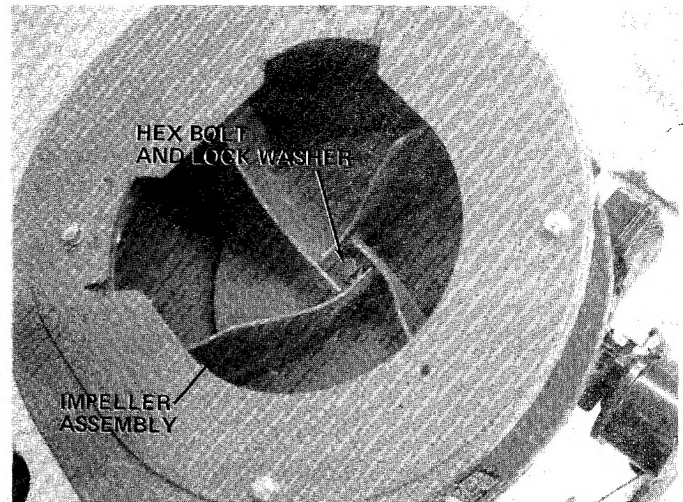

FIGURE 17
2. Remove hex bolt and lock washer from center of impeller. See figure 17. A 9/16" socket wrench with extension is needed.